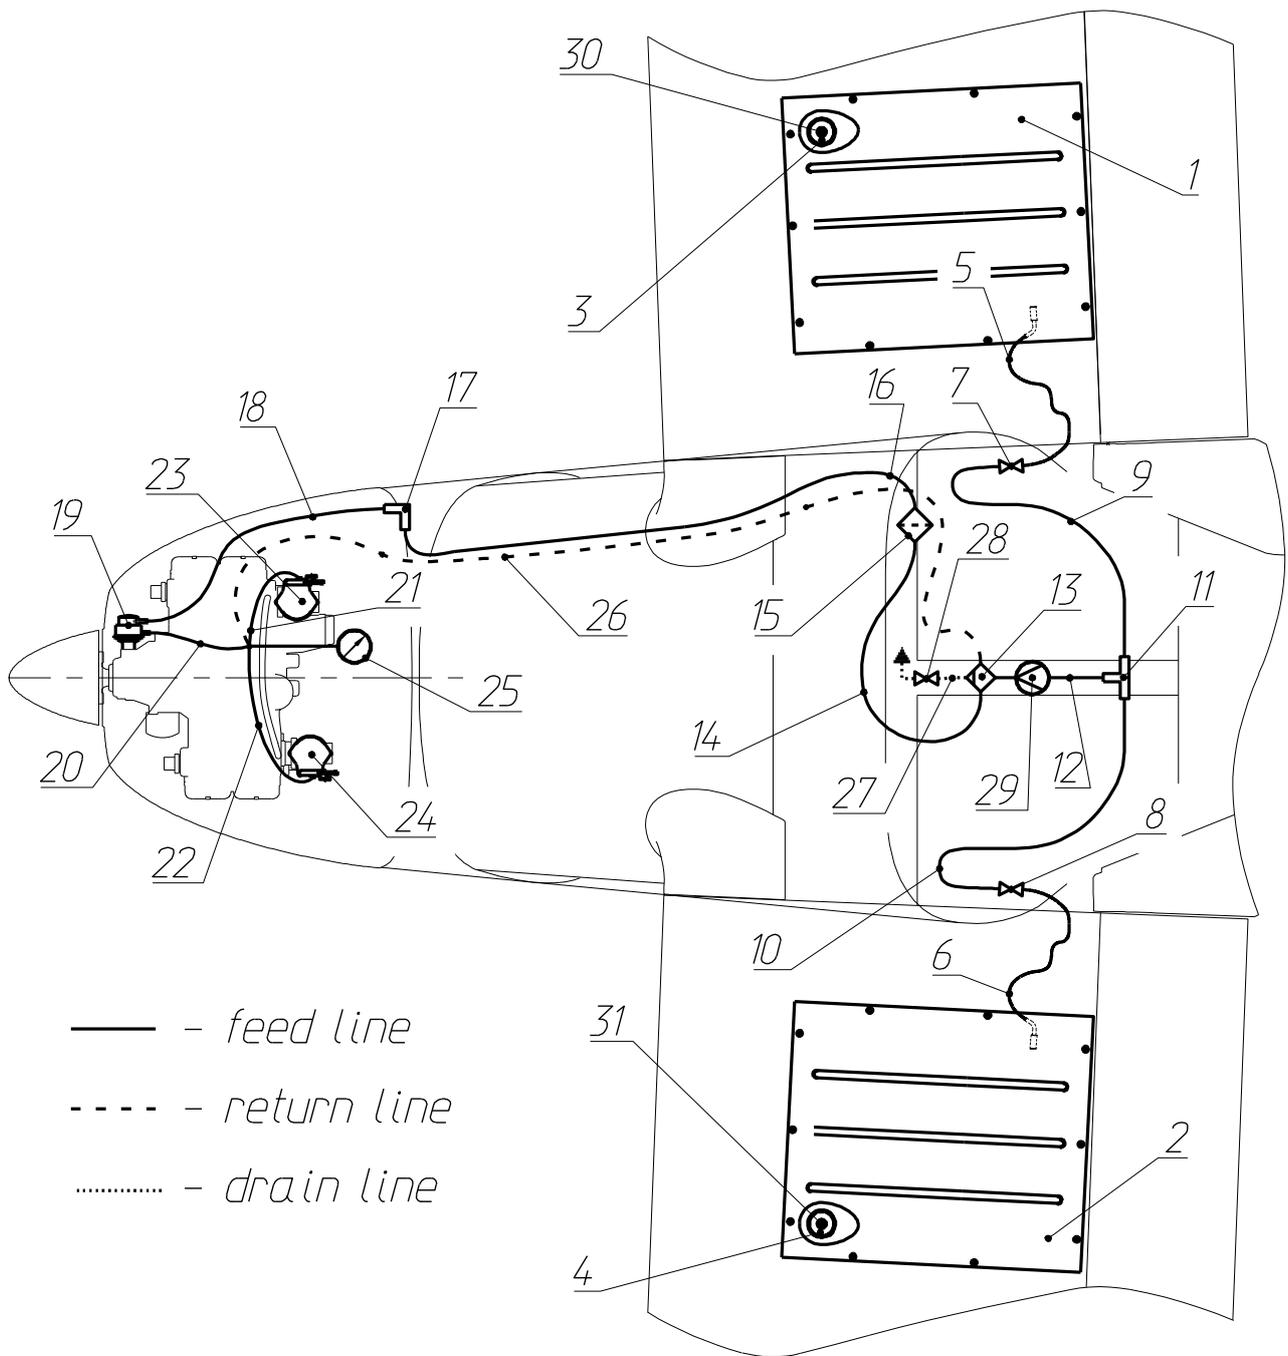

Fig. 3. Fuel system schematic
The fuel system (see **Fig. 3**) includes two wing fuel tanks (1,2), fuel lines (5,6,9,10,12,14,16,18,20,21,22), two shut-off valves (7,8), fuel sediment collector (13), fuel filter (15), fuel pump (19), return line (26), drain line (27) and drain valve (28). The fuel tanks (11.9 (15.05) US gal each) are located at the wing root between the spar and aft web. The fuel inlet 3(4) is located at the front outboard corner of the tank. The inlet cover has vent fitting 30(31) connecting the tank volume free of fuel to the atmosphere. The fuel shut-off valves (7,8) are located on the vertical beams of the frame No.3, on the left and right sides respectively. The shut-off valve is open when its handle is set vertically and closed when the handle is set horizontally. The left and right fuel tank is connected with the fuel lines to the left and right fuel shut-off valve respectively. Further two fuel lines are joined into a single one with the T-connector (11), which is located near the web of the frame No.4 at its bottom part. Then fuel goes to the fuel sediment collector (13). The top outlet of the fuel sediment collector is connected to the fuel filter (15) located on the right side behind the main landing gear beam. The fuel filter can be inspected visually through a window in the protecting cover of the aileron control cables. The bottom outlet of the fuel sediment collector is connected to the drain valve (28) with a drain line (27). The drain valve allows draining fuel through the hole in the bottom rear panel of fuselage. The valve handle is accessible outside of the fuselage. After the fuel filter the fuel line (16) runs through the main landing gear beam, seat beam along the right-hand side of fuselage to the firewall where it is connected with a 90° bulkhead fitting (17), that is passing through the hole in the firewall, to the fuel line of the engine (18) and is connected to the inlet of the fuel pump (19) located on the right-hand side of the engine gearbox. The pump outlet is connected with the fuel lines (20, 21, and 22) to the carburetors (23, 24). The excessive fuel is returned through the line (26) to the sediment collector (13). The fuel system optionally may contain fuel pressure sensor (25) and fuel flow sensor (29).